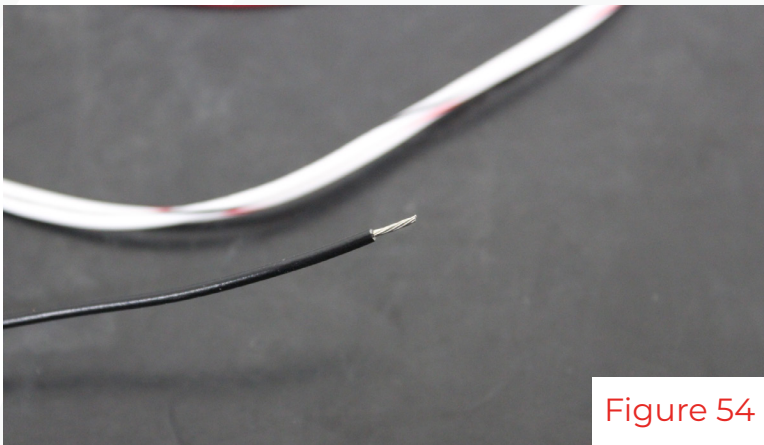

Figure 54
26. Take the Zeitronix harness and use a wire stripper to strip the black wire and install the ring terminal (fig 54 & 55).